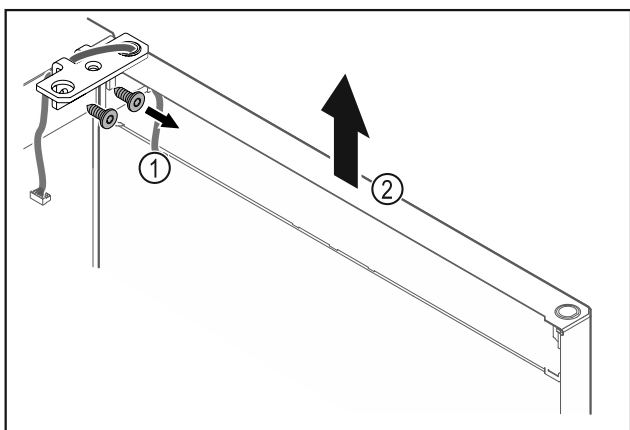

Fig. 15
- Unscrew the hinge Fig. 15 (1).
- Lift the door with the hinge straight up by Fig. 15 (2) roughly 200 mm and take it off.